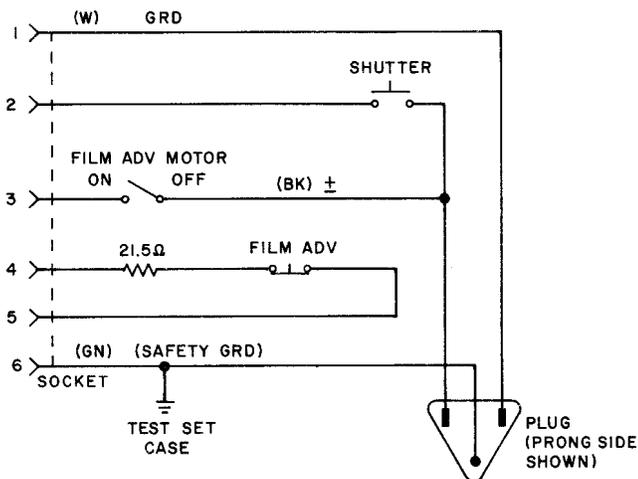

Fig. 1—KS-16338 Test Set Circuit Schematic
(b) **KS-16338 Test Set:** The KS-16338 test set is provided with a 3-conductor power cord which should be connected as shown in Fig. 1 to provide a safety ground. The test set should bear a KS-19764 L1 label, and the cautions on the label should be observed. The toggle switch on the test set should be designated FILM ADV MOTOR ON OFF; if it is not, check that the ground lead on the power cord is connected as shown in Fig. 1. When this is done, add KS-19764 L2 label. Before doing any work on the KS-16007 camera which requires the use of the KS-16338 test set, check the safety ground by connecting an ohmmeter between bare metal on the camera and on the test set with the camera connected to the test set as covered in 3.003.
**2.07 Cover Latch Spring Tension:** Fig. 1, (E)—The tension of the cover latch spring shall be sufficient to hold the latch plate tang against the spool with no film on the spool.